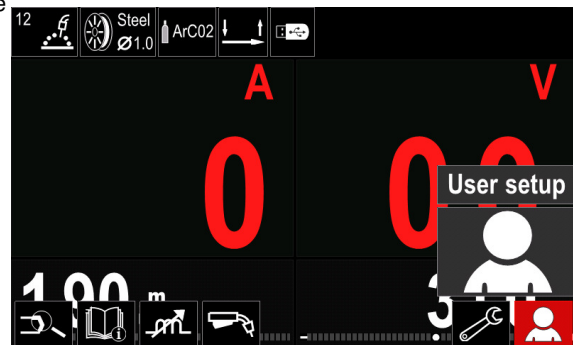

Figure 11.
- Access to the User Setup (see the Figure 11.)